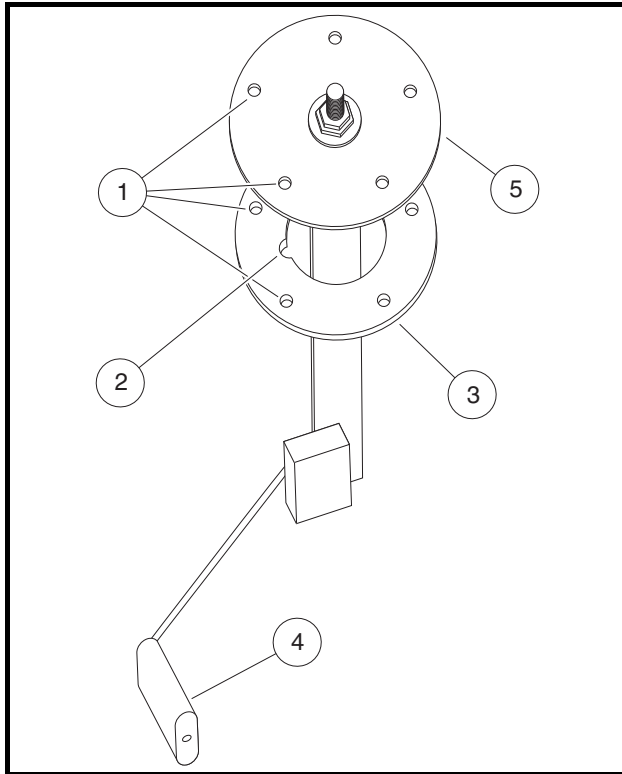

Figure 13b-16 Fuel Level Sending Unit Alignment
3. Align the flange identification mounting holes (1) directly over the corresponding mounting holes in the gasket and fuel tank (**Figure 13b-16, Page 13b-17**). **See following CAUTION and NOTE.**
4. Carefully thread each hex-head screw by hand, with the ring terminal on the black ground wire (6) under the screw head closest to the engine (**Figure 13b-15, Page 13b-15**). **See following CAUTION.**
6. Secure the orange wire (7) to the center post with the nut (9) previously removed (**Figure 13b-15, Page 13b-15**). Tighten the hardware to 17 in-lb (1.9 N·m), and secure the rubber boot (8) to the center post.